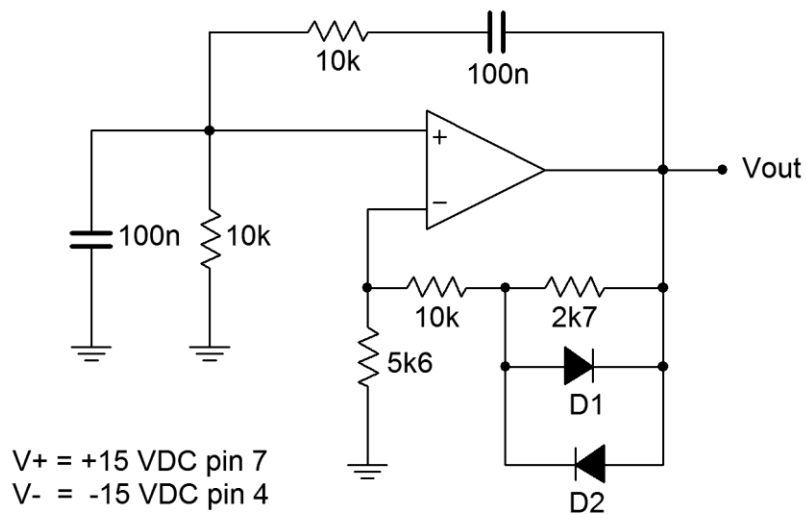

Figure 1
1. Determine the theoretical output frequency for the circuit of Figure 1. Also, estimate the output amplitude. Record these in Table 1.
2. Construct the circuit of Figure 1 using the medium speed op amp.